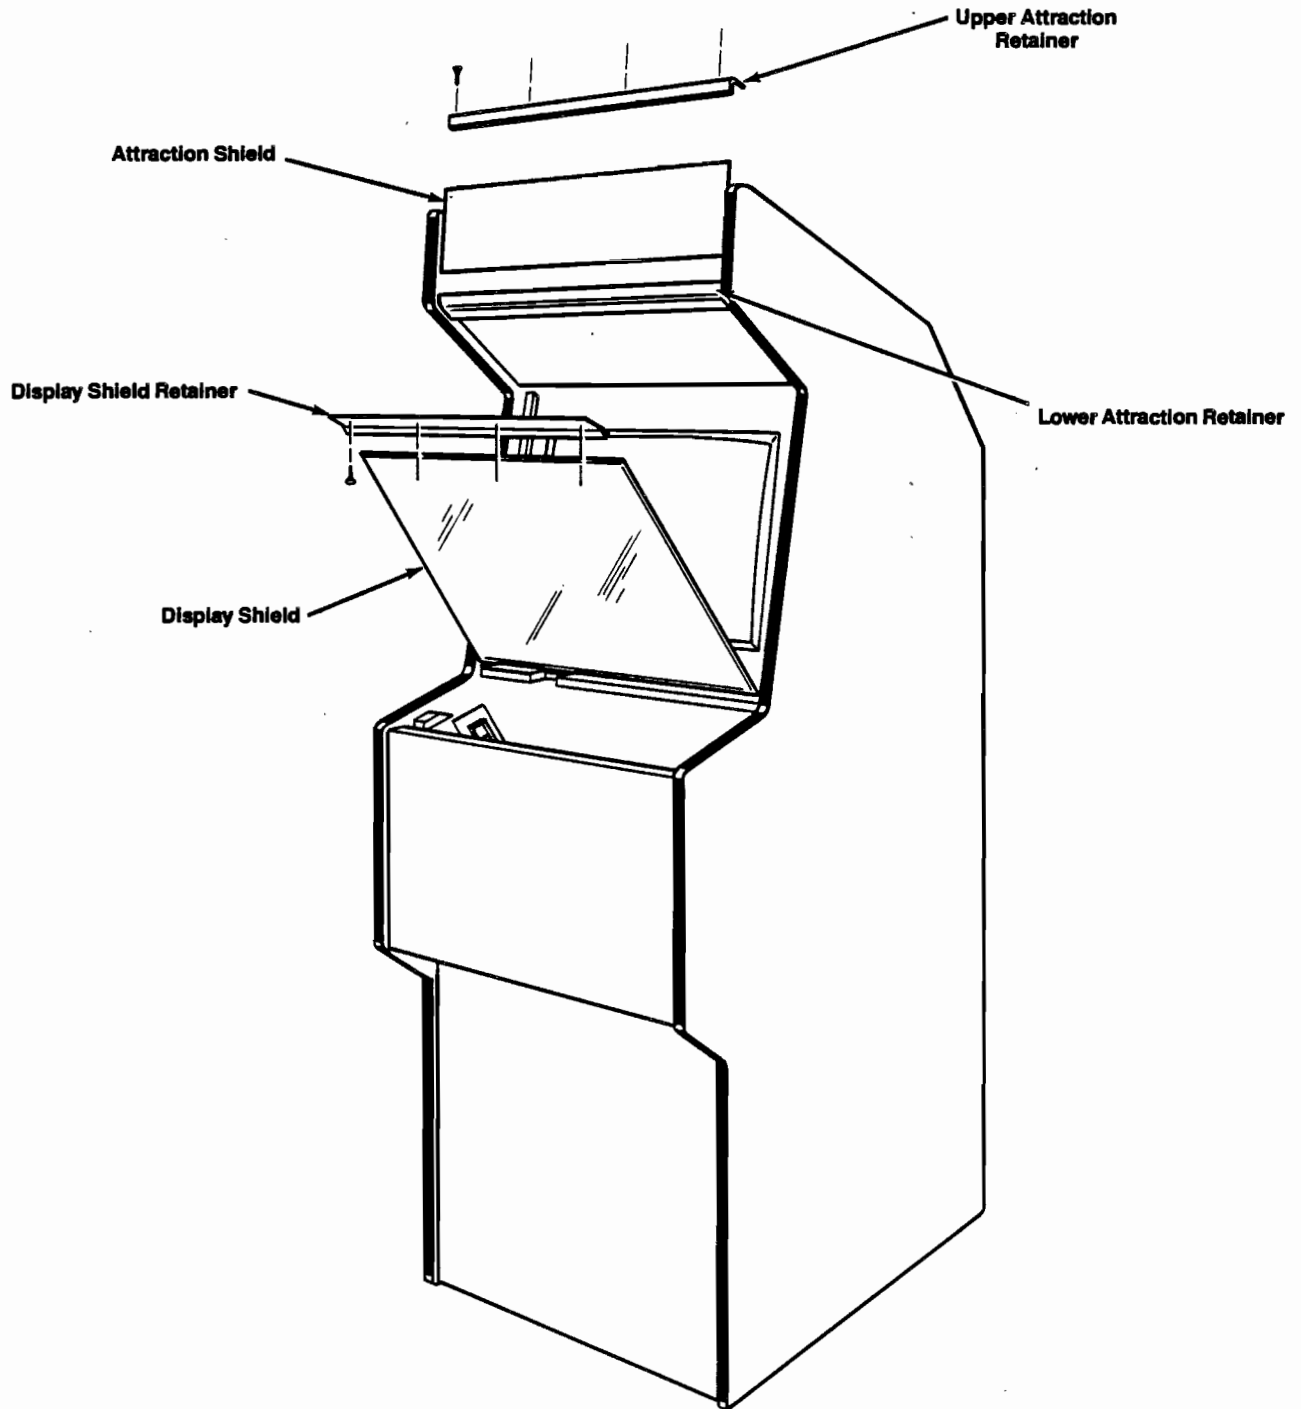

Figure 1 Attraction Shield and Display Shield Replacement
The following procedures are arranged in a sequence recommended for performing the retrofit modification. The parts of your game that are affected by the retrofit (see Figure 1) are removed first. Then, the CLOAK & DAGGER kit parts are installed.
Use the Phillips-head screwdriver to remove the hardware that fastens the upper attraction shield retainer to the cabinet (see Figure 1). Remove the retainer and the attraction shield. BE SURE TO KEEP THE HARDWARE AND RETAINER FOR REASSEMBLY.
Use the Phillips-head screwdriver to remove the hardware that fastens the plastic retainer to the top of the game display shield (see Figure 1). Remove the retainer and display shield by pulling out on the retainer. BE SURE TO KEEP THE HARDWARE AND RETAINER FOR REASSEMBLY.
1. Slide the top of the CLOAK & DAGGER display shield into the groove of the display shield plastic retainer (see Figure 1).
1. Slide the CLOAK & DAGGER attraction shield into the lower attraction retainer (see Figure 1).